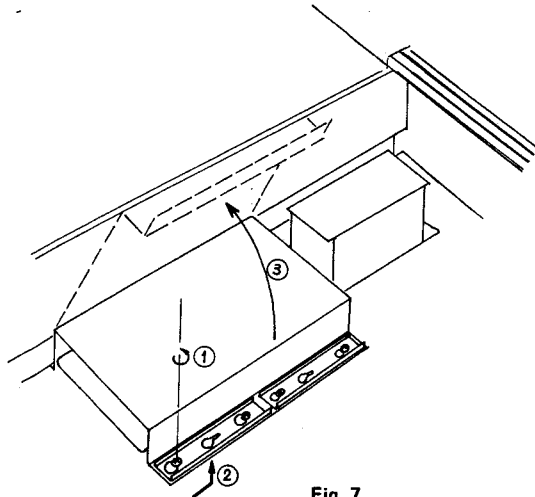

Fig. 7
16. For this step, the control panel must be in the "UP" (service) position. Now, locate the metallized paper cover used to shield the MA circuit board. Loosen the retaining screws (4). Removal of the retaining screws is not necessary. "Key hole" slots have been provided. Now, remove the metal brackets and metallized paper cover (see figure 7).